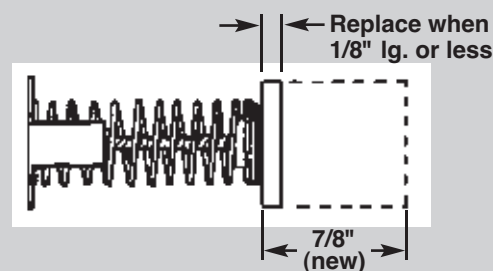

Figure 7
2. Replace the brush assemblies if they are 1/4" long or less. See Figure 7.
1. See Figure 7. Loosen the locknut (C) on the pressure switch (B). Slowly turn the adjusting screw (E) clockwise to increase the pressure setting.
2. Place the control valve in the advance position. Place the motor toggle switch on RUN. With the pump running and bypassing oil at the desired pressure, slowly turn the adjusting screw (E) counterclockwise, decreasing the pressure switch setting until the pump motor shuts off. Tighten the locknut (C) again.